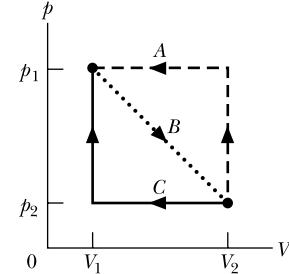

Figure 18.35 Problem 95.
**95** A sample of gas expands from  $V_1 = 1.0 \text{ m}^3$  and  $p_1 = 40 \text{ Pa}$  to  $V_2 = 4.0 \text{ m}^3$  and  $p_2 = 10 \text{ Pa}$  along path *B* in the *p*-*V* diagram in Fig. 18.35. It is then compressed back to  $V_1$  along either path *A* or path *C*. Compute the net work done by the gas for the complete cycle along (a) path *BA* and (b) path *BC*.